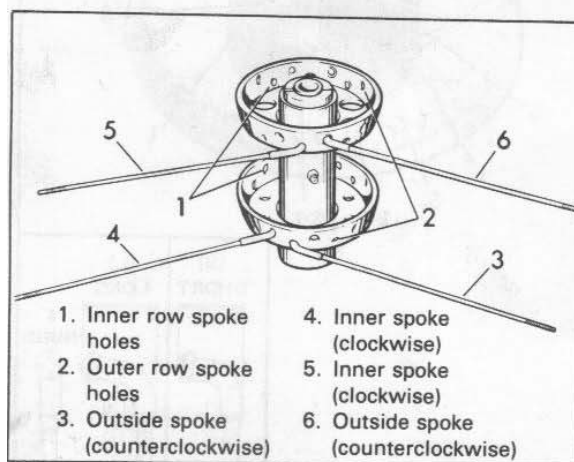
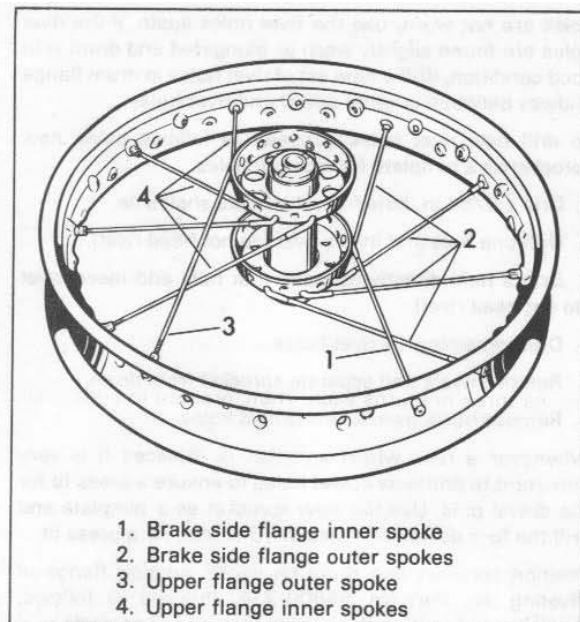

Figure 2-17. Inserting Spokes in Rear Wheel Hub
Figure 2-18. Lacing Rear Wheel
REAR WHEEL (Figures 2-17 and 2-18)
Rear wheel rim is identified by Part No. stamped in rim well as follows: 18 in. steel 43005-70, 18 in. aluminum 43008-70. Spoke holes in hub flanges are in two rows around each flange – ten inner row holes (1) and ten outer row holes (2, Figure 2-17) in each flange.
1. Place hub on bench with brake drum end of hub down as shown in Figure 2-17.
2. Insert spokes (3) in ten outer spoke holes of brake side flange and swing loose end of spokes counterclockwise, as far as hub will allow.
5. Insert spokes (4) in ten inner spoke holes of brake side flange and swing loose end of spokes clockwise as far as hub will allow.
6. See Figure 2-18. Select any inner spoke (1), cross it over four outer spokes (2), and insert spokes in nearest lower rim holes. Start nipples.
7. Insert spokes (5, Figure 2-17) in ten inner spoke holes of opposite flange (upper flange as positioned on workbench) and swing loose end of spokes clockwise as far as hub will allow. Then, insert inner spokes in nearest upper rim holes that angle in same direction as spokes and start nipples.
8. Insert spokes (6, Figure 2-17) in remaining ten outer spoke holes of upper flange and swing end of spokes counterclockwise as far as hub will allow.
9. See Figure 2-18. Select any outer spoke (3), cross it over four inner spokes (4), and insert spokes in nearest upper rim holes. Start nipples.